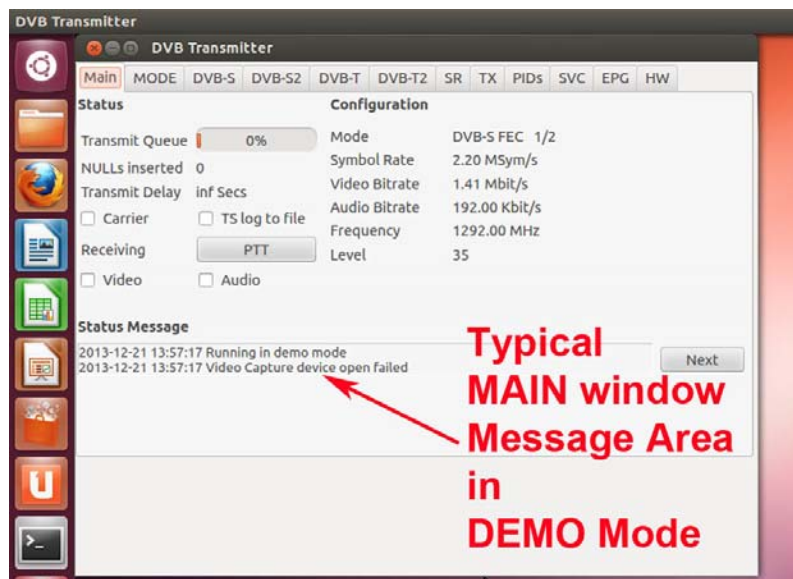

Figure 13 – MAIN user window showing DEMO MODE without either hardware board or video-capture
- If the software application is working well, the DATV-Express MAIN user window should appear in DEMO mode, as shown below in **Figure 13**.